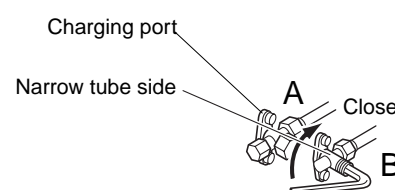

Fig. 22
- (1) Stop heatpump. Fully close the spindle at the valves on the narrow tube side of tubes B. (Refer to Fig. 22.)